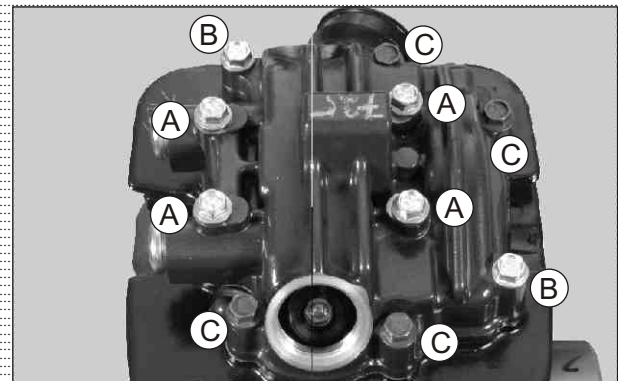

Fig. 3.72
- Remove hexagonal flange bolts (M6x55 - 4 nos (A), M6x45 - 2 nos (B) and M6x35 - 4 nos (C)) from cover cylinder head mounting along with 4 nos of gasket cylinder head. (Fig. 3.72)